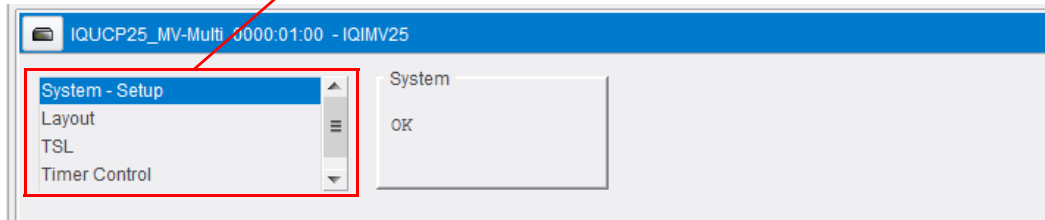

Fig. 6-61: Template Selection Box
- Click on the template name in the **Template Selection** box. See Figure 6-61.